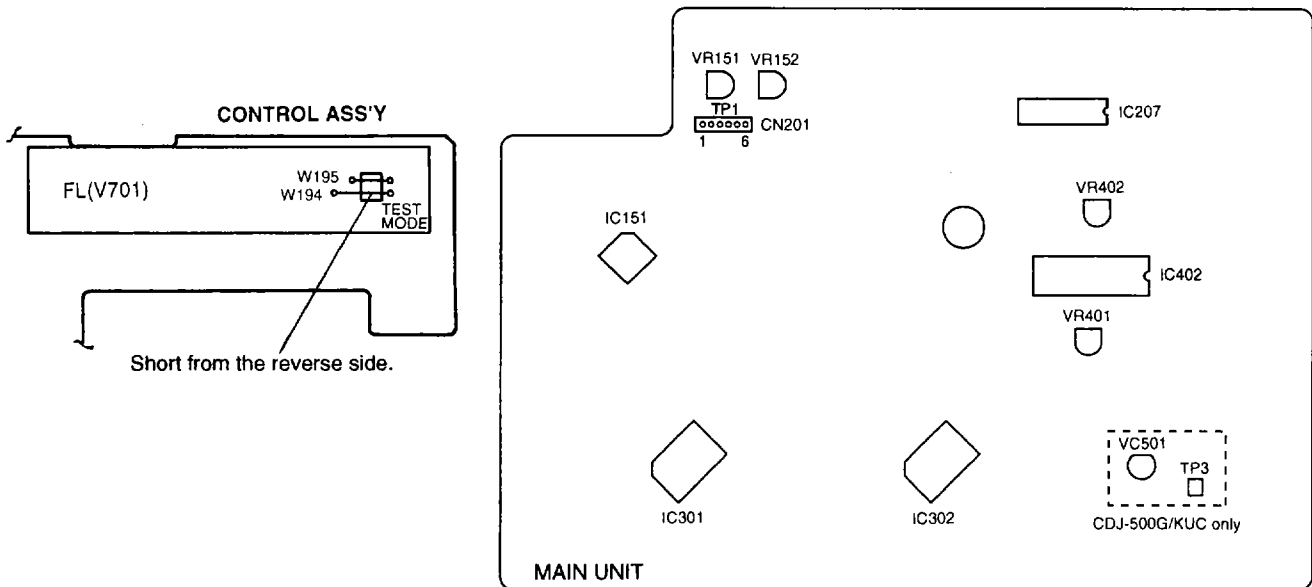

Figure 1. Adjustment Locations
2. Short the test mode jumpers with the door closed. (see Figure 1.)